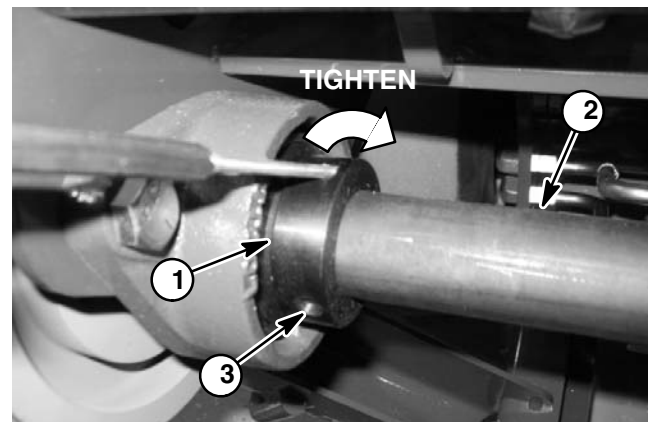

Figure 20
3. Place woodruff keys (item 6) in jackshaft. Slide pulleys and taper lock bushings onto jackshaft making sure that tapered surfaces of pulley and bushing align. Align threaded holes of pulley with non-threaded holes of bushing. Loosely install three (3) cap screws with lock washers to both bushing and pulley assemblies.
5. Align taper lock bushing in primary pulley flush with end of jackshaft and secure with set screw. Tighten three (3) cap screws to a torque from 180 to 200 in-lb (20.3 to 22.6 N-m) in three equal steps and in a circular pattern to secure primary pulley and taper lock bushing.
7. Using the blind hole in flange mount bearing locking collars as a striking point, lock collars to jackshaft by rotating the collars with a punch in the direction of jackshaft rotation (Fig. 20). Tighten set screw (item 11) to secure each bearing locking collar to jackshaft.
9. Secure taper lock bushing by tightening three (3) cap screws to a torque from 180 to 200 in-lb (20.3 to 22.6 N-m) in three equal steps and in a circular pattern to secure secondary pulley and taper lock bushing.